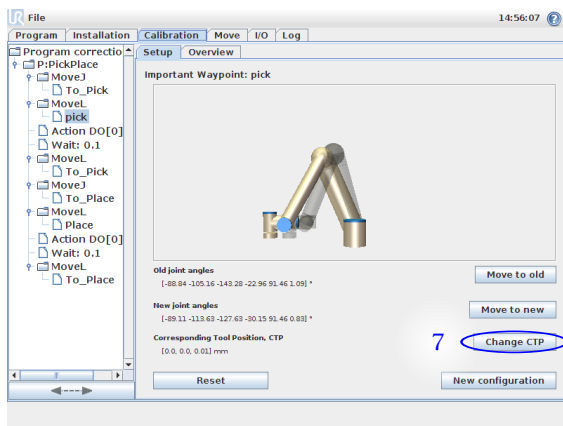

Figure 2.8: Change the Corresponding Tool Position by press "Change CTP"
(7) Specify the Corresponding Tool Position by press "Change CTP", see figure 2.8.